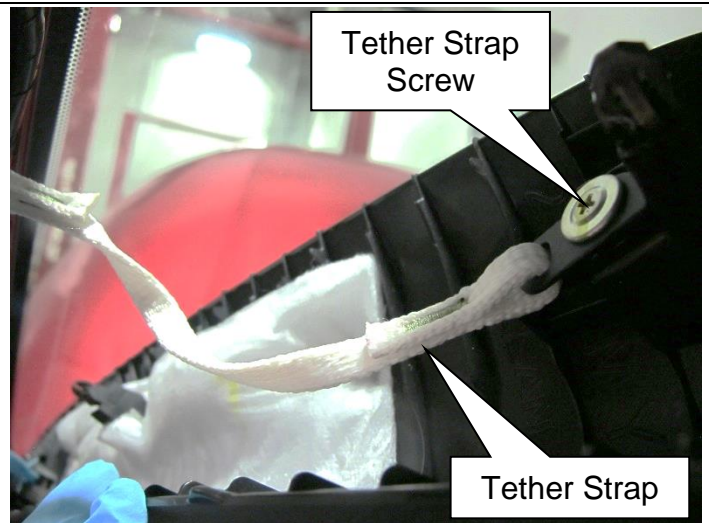

Figure 13
12. Install tether strap and fixing screw to front pillar garnish (Figure 13).